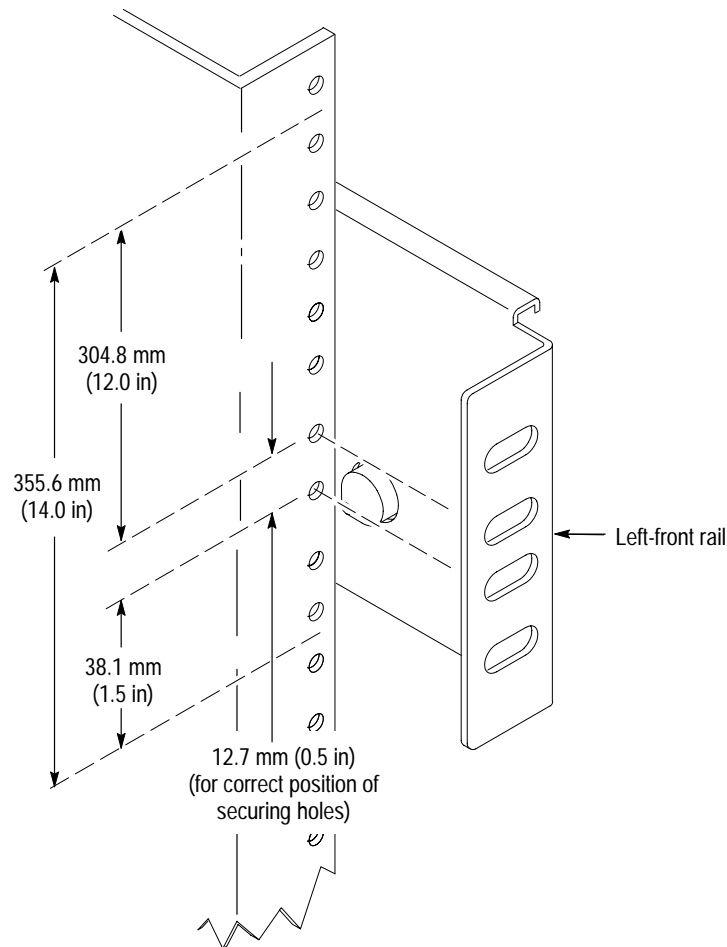

Figure 3: Vertical clearance for rack installation (standard mainframe)
6. Select the mounting position in the rack: select two 0.5-inch spaced holes in the front rail and verify that the 1.5-inch and 14.00-inch clearances exist relative to the mounting holes as shown in Figure 3.